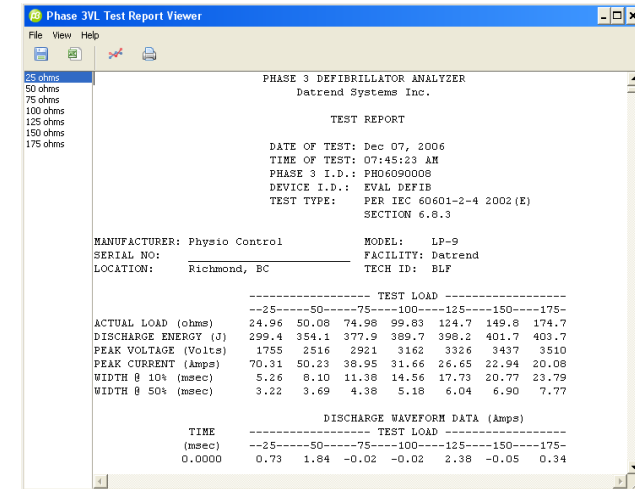

Fig. 5
- In the Test report Viewer (Fig 5), the report can be printed or saved as a .vml file (for use with Phase 3VL) or a .csv file.